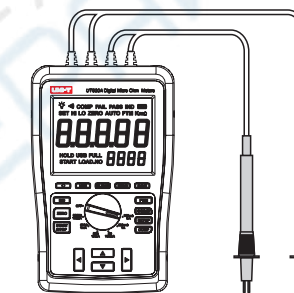

Figure 7
- Connect 4-wire test leads to P1, P2, C1 and C2 terminals of the meter, See Figure 7